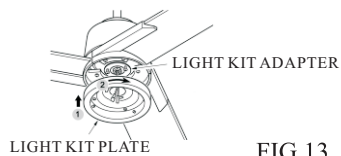

FIG.13
2. Gently pull the wire through light kit plate. Have the key hole over the loosened screws. Turn the light kit plate until it gets the end of narrow end. Then, tighten the previously removed and loosened screws. (See Fig 13 & 14)